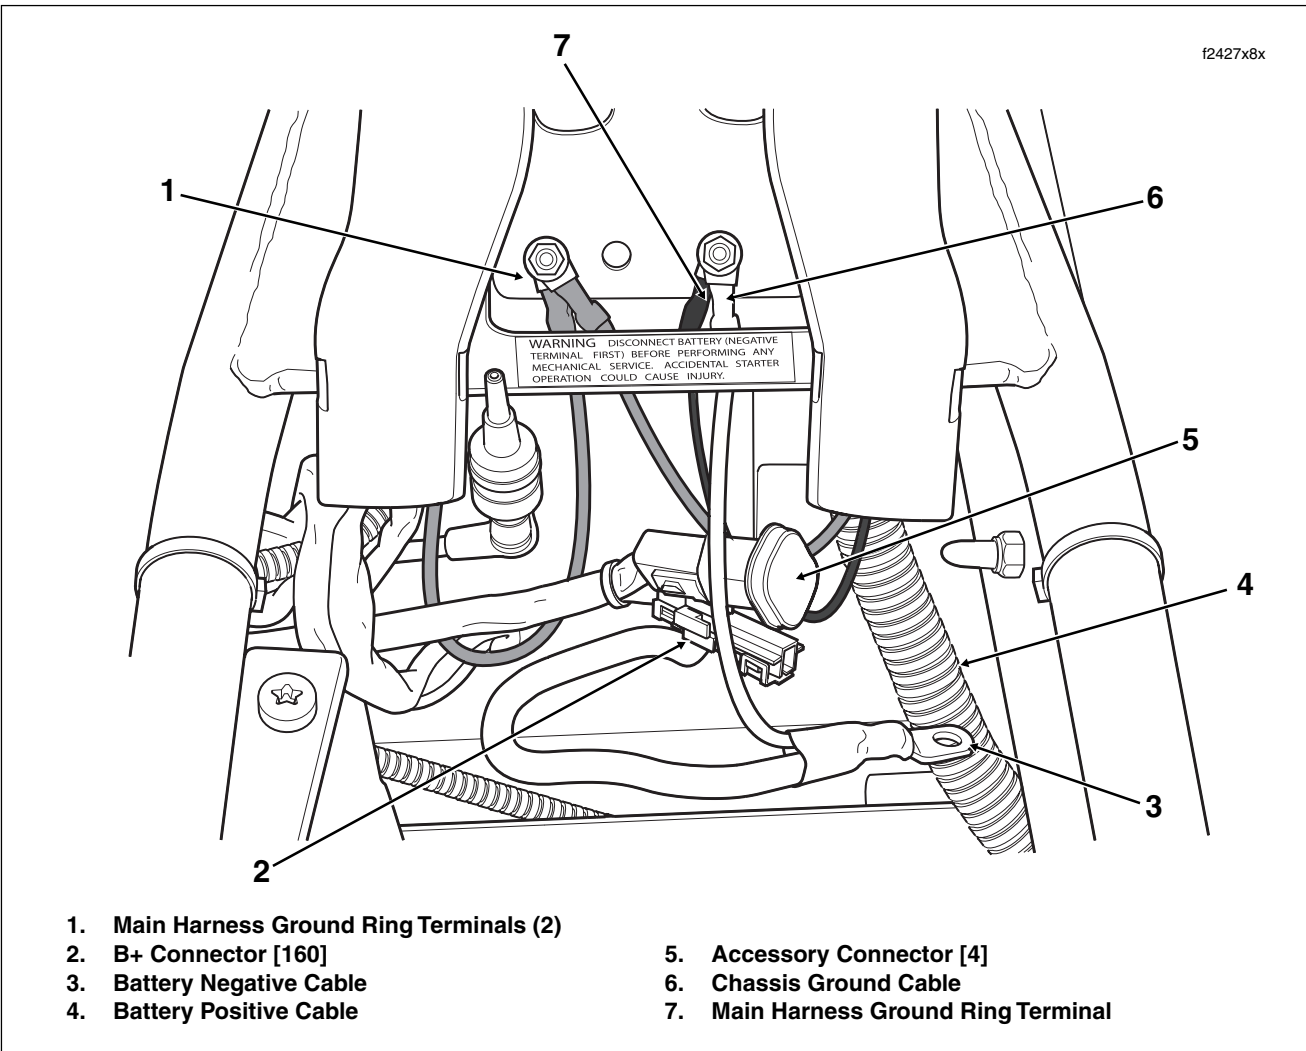

Figure 8-164. Upper Frame Cross Member (Under Seat) - Main Harness Connectors (FLHX, FLHTC/U)
4. Remove flange nut (10 mm) from left side ground stud on upper frame crossmember. Remove two main harness ground ring terminals (with orange tape). Repeat step to remove main harness ground ring terminal (without orange tape) and chassis ground ring terminal from right side ground stud. See Figure 8-164.
16. Cut anchored cable strap to release accessory connector [4] and B+ connector [160] from left side of frame crossmember (in front of battery box). See Figure 8-164.
6. Slide two main harness ground ring terminals (with orange tape) onto left side ground stud on upper frame crossmember. Install flange nut (10 mm). Install main harness ground ring terminal (without orange tape), chassis ground ring terminal and flange nut (10 mm) onto right side ground stud. Tighten flange nuts to 50-90 **in-lbs** (5.7-10.2 Nm). See Figure 8-164.
15. Install **new anchored** cable strap in lower hole on left side of frame crossmember (in front of battery box). Tighten cable strap to capture conduit of both accessory connector [4] and B+ connector [160] approximately one inch from connector housings. See Figure 8-164.